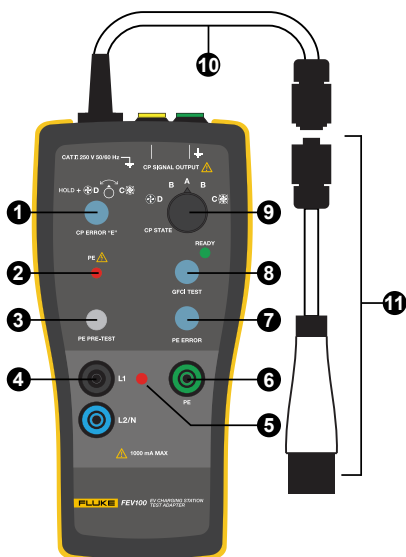

Figure 2. Front panel function
2. Touch the probe with a bare finger. If PE Light (item **2**, Figure 2) is illuminated, then dangerous voltage is present at ground conductor. Stop further testing immediately and check for a possible wiring fault of the tested ground conductor. In case of this error, the ground terminal carries hazardous voltage. There is a high risk of electric shock.